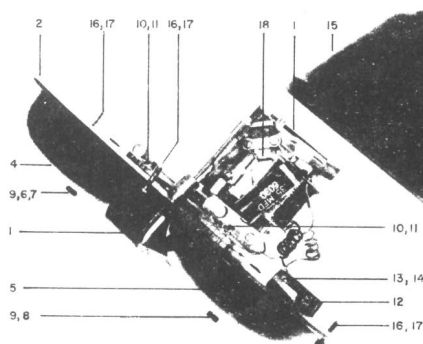

FIGURE 2 FRONT VIEW - COVER REMOVED
1.02 Figure 1 shows a typical B-type ringer and its component parts. Figure 2 illustrates a typical 301 subscriber set (loud ringing bell).